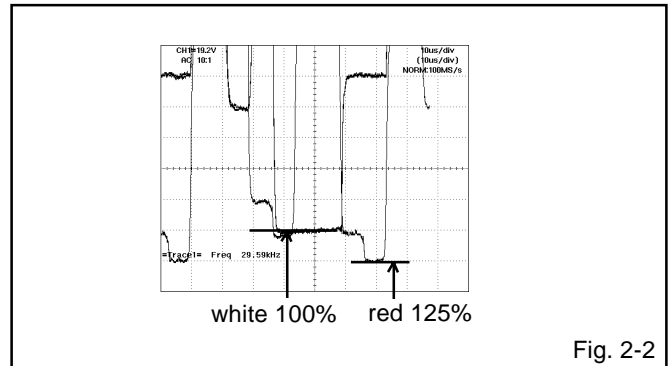

Fig. 2-2
7. Press the VOL. UP/DOWN button on the remote control until the red color level is adjusted to $125 \pm 10\%$ of the white level. **(Refer to Fig. 2-2)**